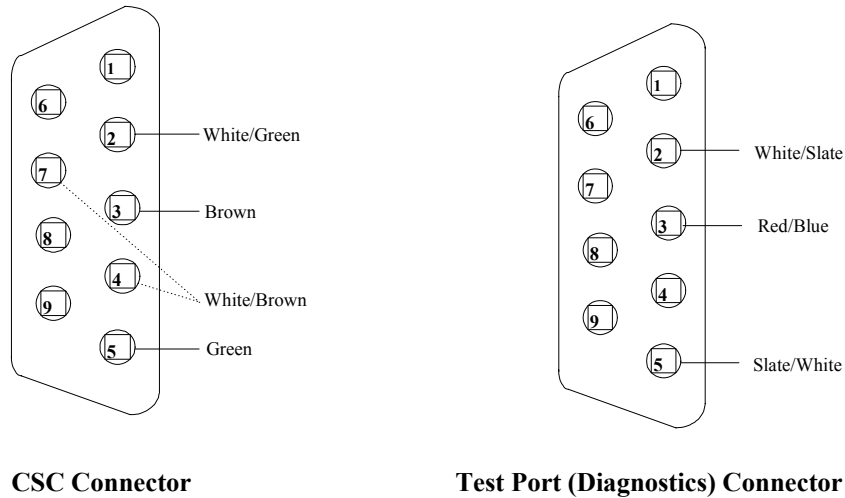

Figure 5. MBS2 DB9 Connectors
12. See figure 5 for the pin insertion locations. If the DB9 contacts must be removed for any reason, use Amp tool No. 91285-1 or equivalent.
The DB9 Connector diagram in Figure 5 is looking at the back of the connector. The backside is considered to be the side with the black plastic protruding and the two pair twisted cable is to be inserted from this side. The front of the DB9 Connector only has the metal housing protruding.
13. The CSC connector (see figure 5) is the port used by the Wireless Matrix MBS2 to communicate with the Client Side Computer (CSC). This port allows the communication between the Wireless Matrix MBS2 and the CSC to take place.
The CSC is a DB9 Female connector that uses four leads of the power-data cable (19 pin, cannon connector) with the pin-out configuration as displayed in figure 5.
The Test Port (Diagnostics) connector (see figure 5) is the port used by the Wireless Matrix MBS2 to communicate with the On Board Computer (OBC) module located within the CSC for test and diagnostic purposes only. This port allows diagnostics capabilities between the Wireless Matrix MBS2 and the user interface, such as HyperTerminal.
The Test Port is a DB9 Female connector that uses three leads of the power-data cable (19 pin, Cannon connector) with the pin-out configuration as displayed in figure 5.
24. Once the power-data cable is installed, assemble the DB9 connectors for the CSC and Test Ports (use the Cable Configuration Diagram, Figure 5).